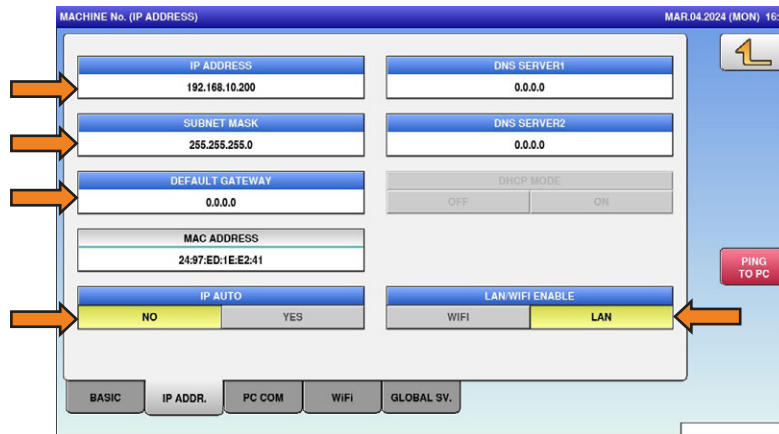

Figure 3-1. Enter IP Address, Subnet, and Gateway
To use wireless communication, ensure LAN/WIFI ENABLE is set as WIFI on the IP ADDR tab. See Figure 3-1 on page 24.
**IMPORTANT:** To disable wireless comms, set LAN/WIFI ENABLE as LAN on the IP ADDR tab. See Figure 3-1 on page 24.